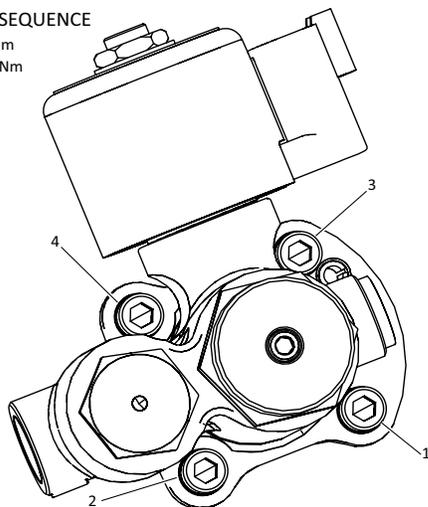

Figure 16. Tank Supply Solenoid
7. Torque the bolts to an initial torque: Crossing pattern 2.5 Nm (22 in-lb). Refer to Figure 16 for the correct torquing pattern.
8. Torque the bolts to a final torque: Crossing pattern 10 Nm (7.4 ft-lb). Refer to Figure 16 for the correct torquing pattern.